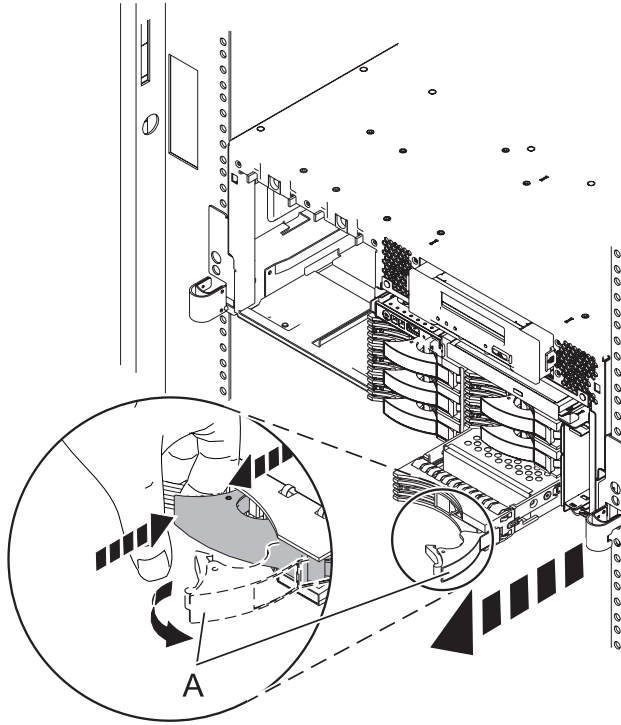

Figure 17. Removing the disk drive from the 3.5 inch disk drive backplane
- 1) Gently lift and move the disk drive handle (A) away from the system to unseat the disk drive.
- 2) Place one hand under the disk drive and carefully pull the drive out of the system as shown in Figure 17 on page 21.